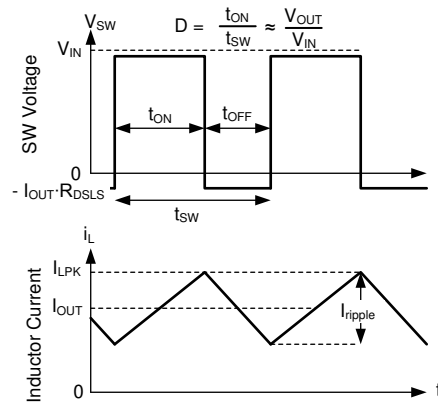

図 7-17. SW Voltage and Inductor Current Waveforms in Continuous Conduction Mode (CCM)
The following operating description of the LMR36503E-Q1 refers to the セクション 7.2 and to the waveforms in 図 7-17. In CCM, the LMR36503E-Q1 supplies a regulated output voltage by turning on the internal high-side (HS) and low-side (LS) switches with varying duty cycle (D). During the HS switch on-time, the SW pin voltage, V_{SW} , swings up to approximately V_{IN} , and the inductor current, i_L , increases with a linear slope. The HS switch is turned off by the control logic. During the HS switch off-time, t_{OFF} , the LS switch is turned on. Inductor current discharges through the LS switch, which forces the V_{SW} to swing below ground by the voltage drop across the LS switch. The converter loop adjusts the duty cycle to maintain a constant output voltage. D is defined by the on-time of the HS switch over the switching period: